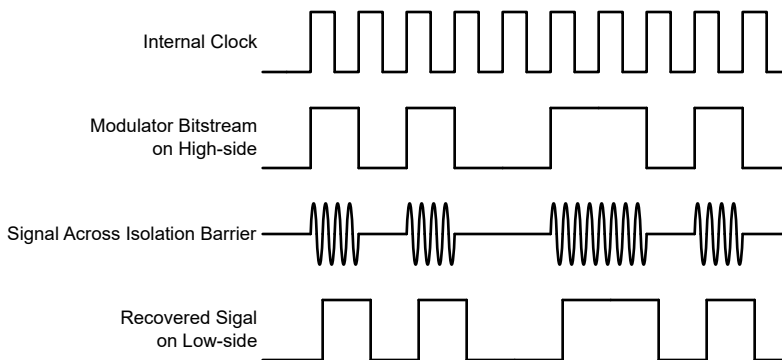

Figure 7-4. OOK-Based Modulation Scheme
As shown in Figure 7-4, the AMC0x06M25-Q1 uses an on-off keying (OOK) modulation scheme to transmit the modulator output bitstream across the SiO₂-based isolation barrier. The transmit driver (TX) is illustrated in the Functional Block Diagram. TX transmits an internally generated, high-frequency carrier across the isolation barrier to represent a digital one. However, TX does not send a signal to represent a digital zero. The nominal frequency of the carrier used inside the AMC0x06M25-Q1 is 480MHz.